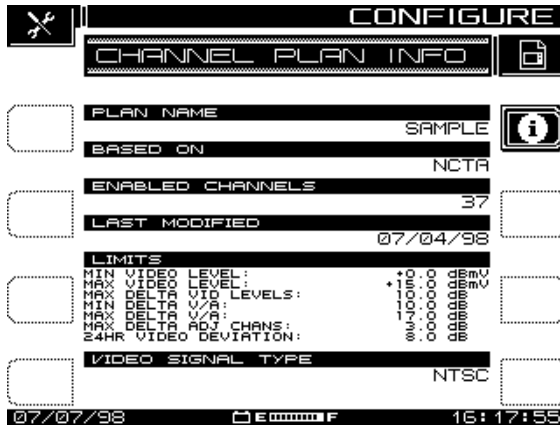

Fig. 3-4 Channel Plan Info
2. Press the Info soft key at the upper right of the display to view the CHANNEL PLAN INFO screen (see Fig. 3-4). This is a view-only screen, which displays main features of the plan specified in the top line.